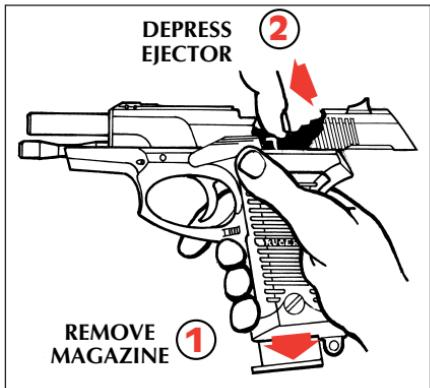

FIGURE 1
3. **Keep upward pressure on slide stop to prevent forward movement of slide.** Open slide is under strong spring tension and could injure fingers if allowed to slam shut. Insert finger through top of slide and push ejector downward and forward (see Figure 1, p. 17) until it locks in its lower position. This will permit forward movement of slide. Further disassembly is impossible unless this is done.